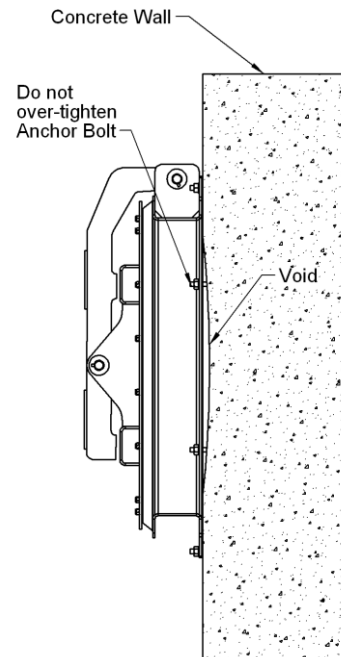

Figure 5
**CAUTION!:** If the flap gate is not completely in contact with the wall, do not over-tighten the anchor bolts. Over tightening may bend or distort the frame. If the wall flatness and levelness is according to the specified standards, the construction sealant will fill in the remaining void (see Figure 5)